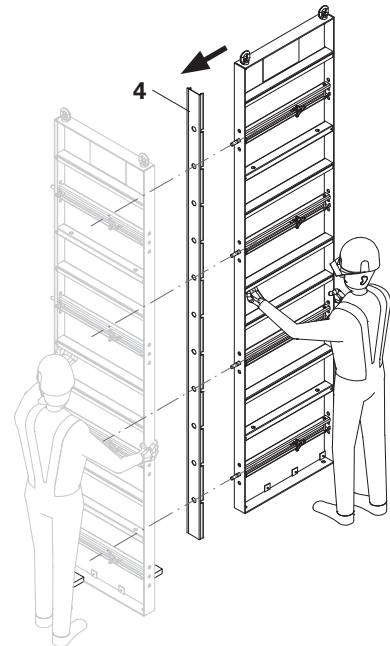

Fig. B1.03
4. Second panel is pushed next to the first panel. (Fig. B1.03)